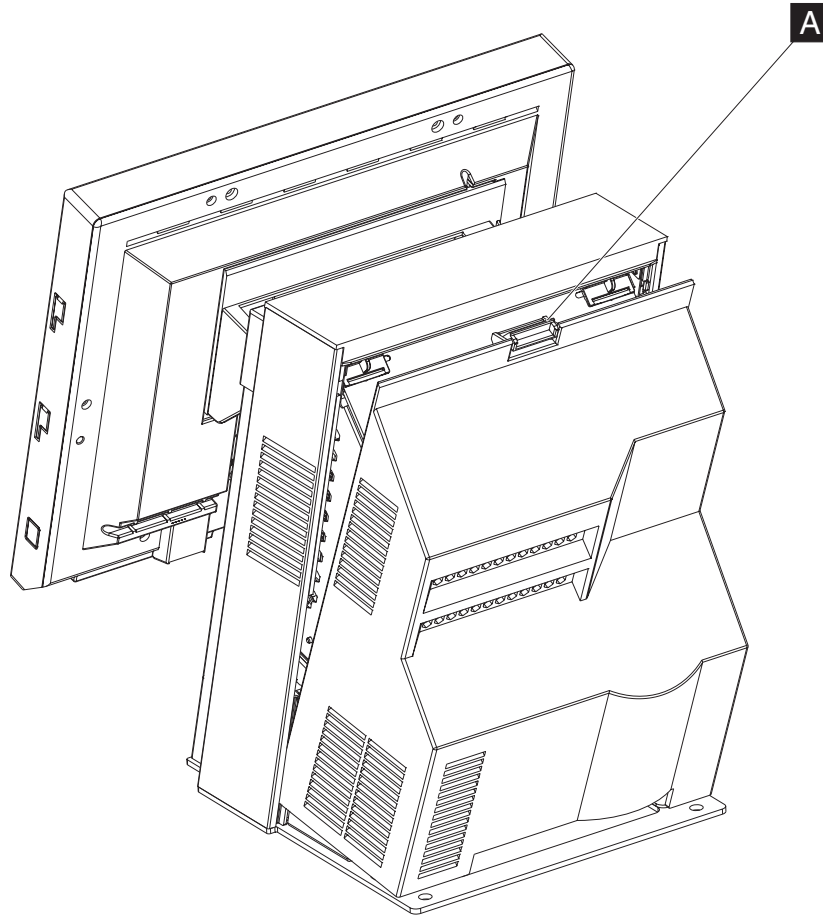

Figure 8. Removing the rear cover
2. Facing the rear of the system, press down on the latch **A**, and rotate the top away as shown in Figure 8, and lift the rear cover away from the unit.